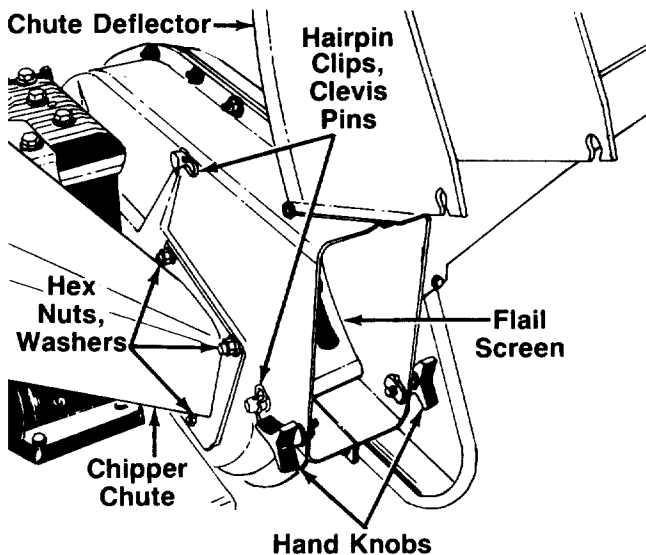

FIGURE 18.
- Remove two hairpin clips from the clevis pins which extend through the housing. Remove the clevis pins. Lift the flail screen from inside the housing. See figure 18.
NOTE: Be certain to reassemble the flail screen with the curved side down as shown in figure 18.
- Remove the chipper chute by removing three hex nuts and washers. A 1/2" wrench is required. See figure 18.